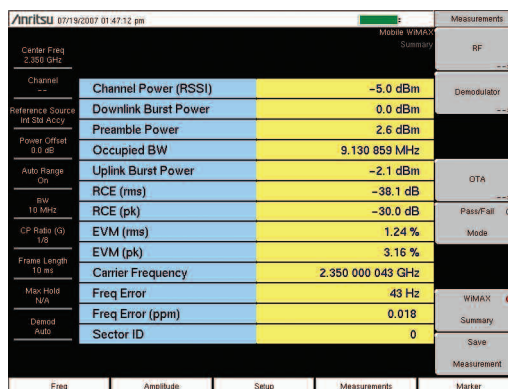

Figure 13. WiMAX Summary screen.
BTS Master MT8222A provides a Pass/Fail mode, where a user defined file may be chosen that specifies a list of measurements with pass/fail criteria. This mode will sequence through the appropriate measurements and indicate a pass or fail state based on the criteria. Green color indicates the measurement has passed and red indicates fail. Using Master Software Tools, a custom test list can be created and downloaded into the unit. All critical measurements can be selected for pass fail testing. The results are displayed in tabular format with clear identification of pass/fail results including min/max thresholds and measured results (Figure 13).
2. Press the WiMAX Summary soft key to activate the measurement. The red dot on the soft key indicates it is selected (Figure 13).